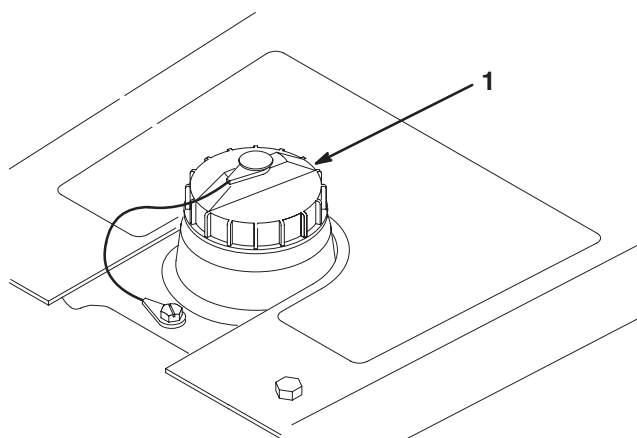

Figure 6
1. Remove the cap from the hydraulic oil reservoir (Fig. 6).